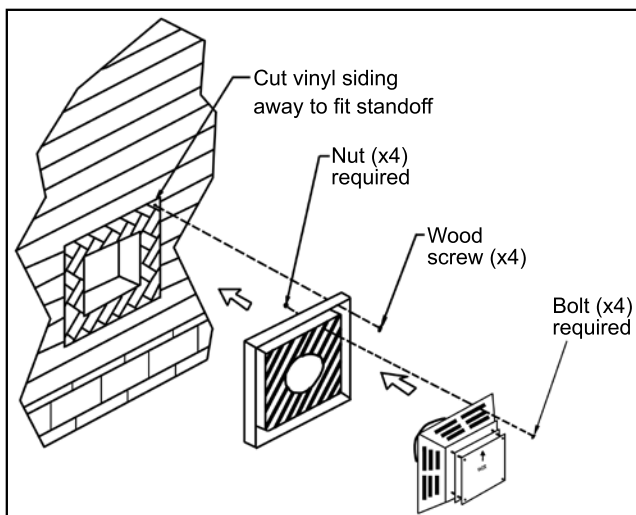

Figure 28: Installing Vent Cap with Vinyl Siding Stand-Off.
- (a) The four (4) wood screws provided should be replaced with the appropriate fasteners for stucco, brick, concrete, or other types of siding.
- (b) For buildings with vinyl siding, a vinyl siding standoff, should be installed between the vent cap and the exterior wall (see Figure 28). Attach the vinyl siding standoff to the horizontal termination. The vinyl siding standoff prevents excessive heat from possibly melting the vinyl siding material. Note that the horizontal vent termination bolts onto the flat portion of the vinyl siding standoff (shaded area in Figure 28), so that an air space will exist between the wall and the vent termination.